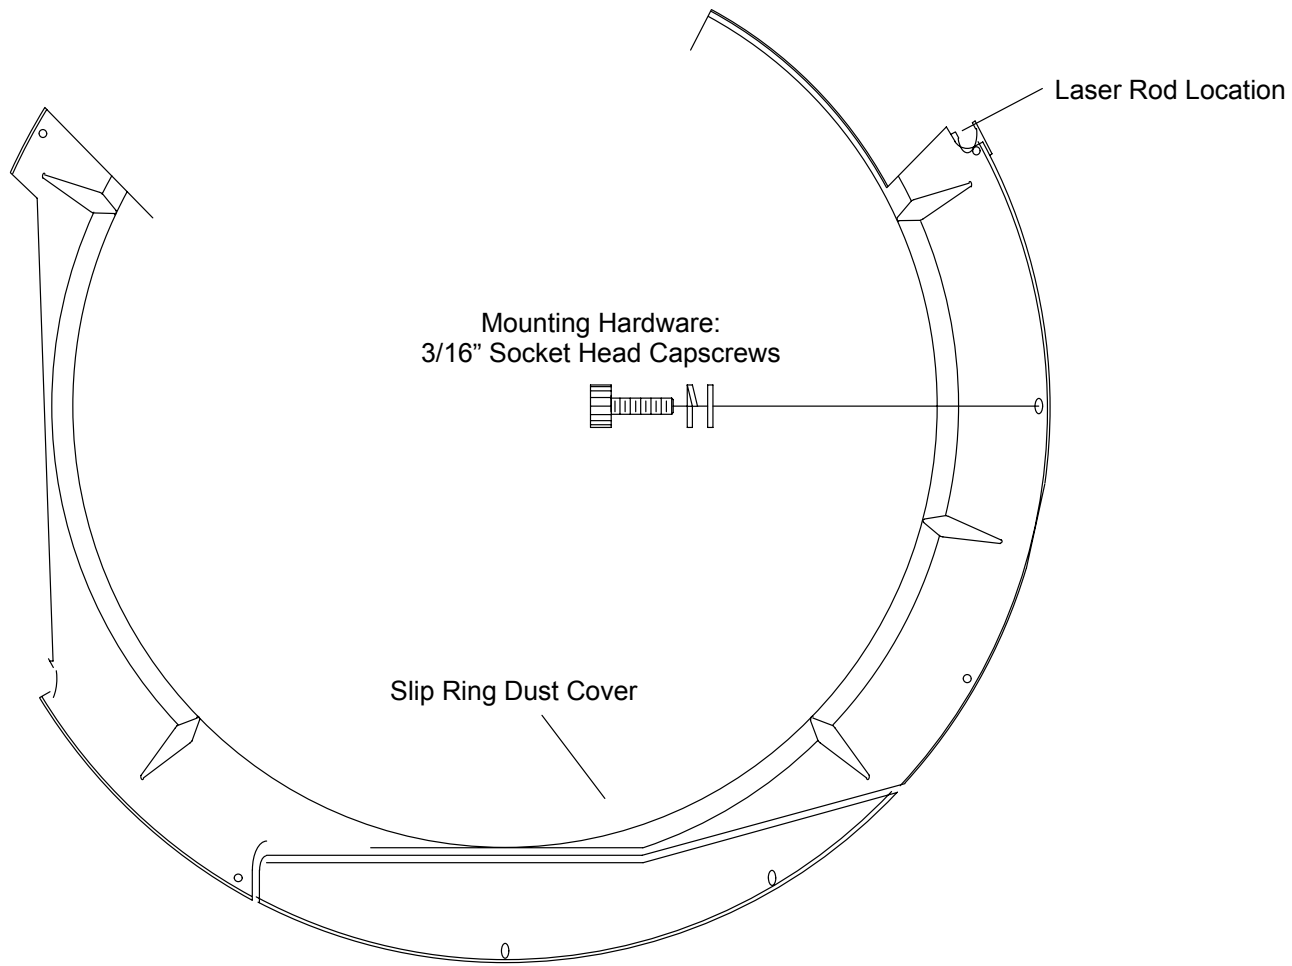

FIGURE 310 Slip Ring Dust Cover
4. Remove the Socket Head Cap Screws holding the Slip Ring Dust Cover to the Scan Frame. See Figure 310.